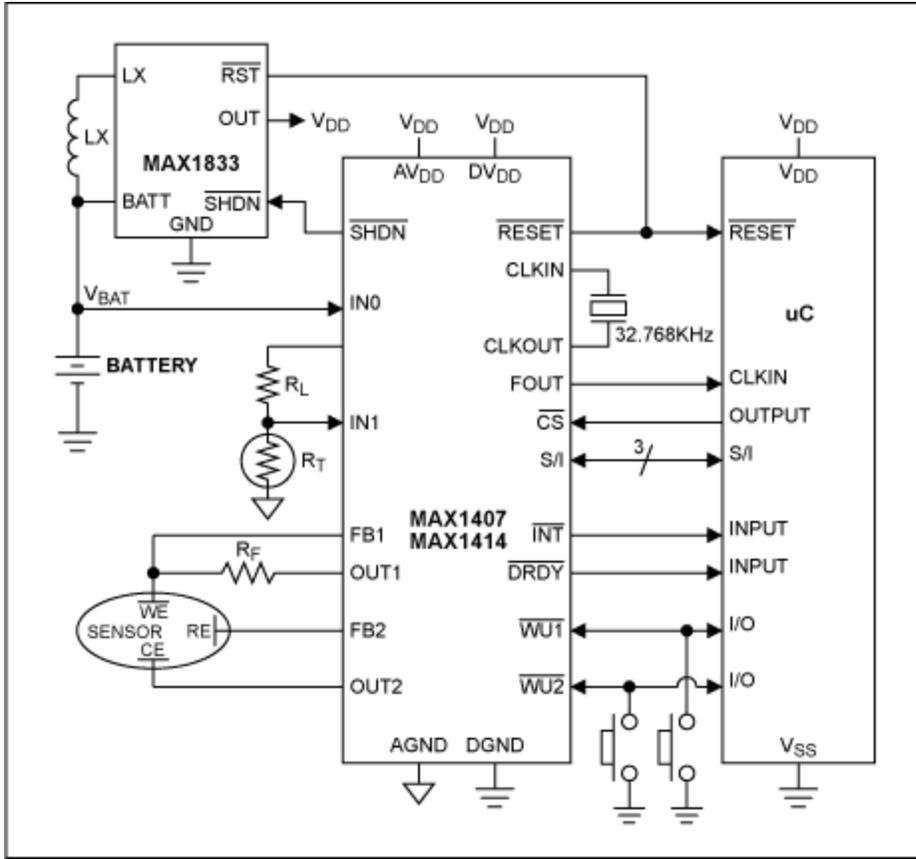

Figure 2. Portable system functional block diagram using the MAX1407/14.
**Figure 2** shows the functional block diagram for the same portable DAS using the MAX1407, simplifying the system design greatly. The MAX1407 contains all the circuitry required for the AFE, including the multiplexer, the A/D converter, and the voltage reference. It also has the ability to measure the battery and supply voltages. Also included are digital functions, including two reset circuits, a 32kHz oscillator with RTC, wake-up circuitry, power supply control, and a high-frequency clock output to drive the  $\mu\text{C}$ . In addition, all the blocks in the MAX1407 can be individually controlled and powered down via the serial interface. The sensor application shown is just one of the many ways this flexible AFE can be configured.